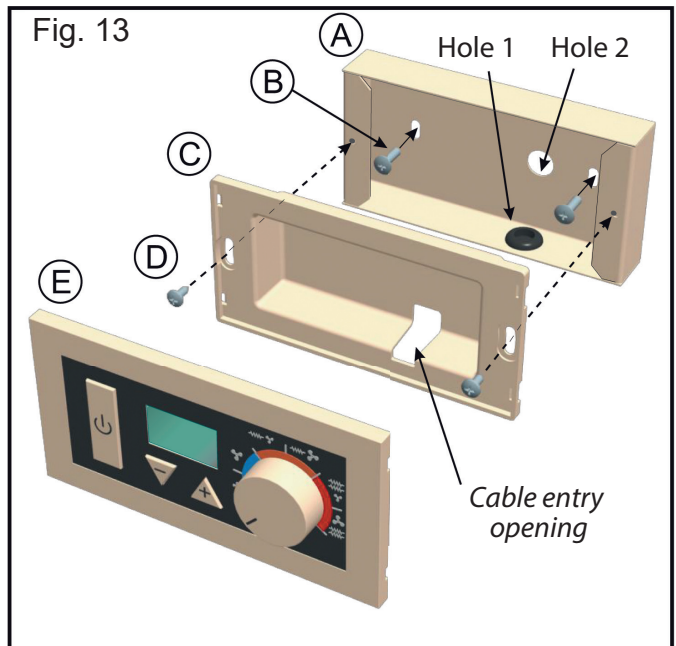

Fig. 14
3 - Use a screwdriver to separate the back of the control box (C) from the front panel (E) (Fig. 14).
- 1 - Use a screwdriver to separate the back of the control box from the front panel (Fig. 14).